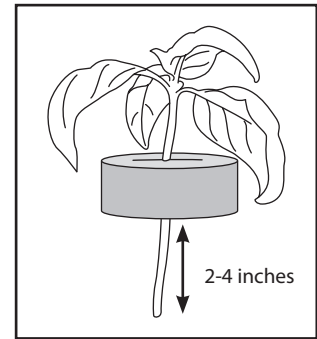

Figure 1
3. Apply root compound to plant cutting and insert it into foam cutting disc. **IMPORTANT: Do not use gel hormone! This will suffocate the plant stem.** Allow 2-4 inches of plant stem to hang below cutting disc (Figure 1). Trim off excess leaf matter to allow the plant to conserve energy and water.